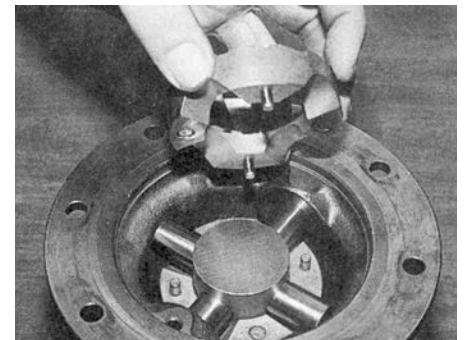

Figure 7. Install the top driver so that the pins in the top driver rest on the springs in the bottom driver.
8. Turn the top driver over and hold it so that the stop pins line up with the springs in the opposite driver. Carefully lower it until the pins rest on the springs (Figure 7). Push it up and down to be absolutely sure that all pins and springs are in place and are functioning properly. Proper operation of the parts at this point is very important!